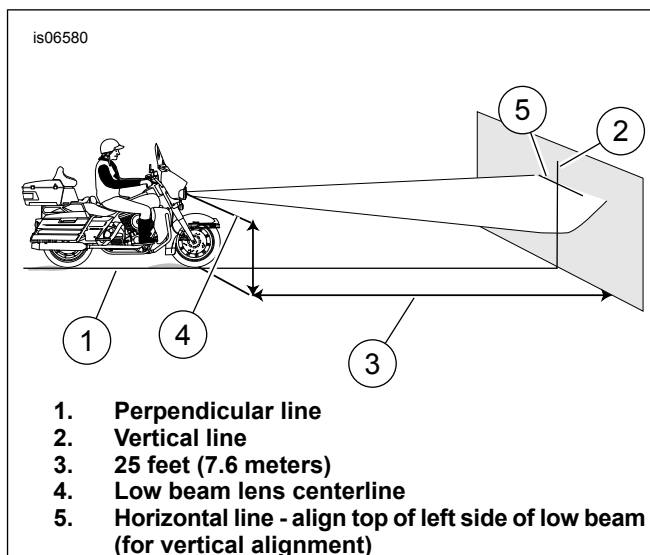

Figure 2. Checking Headlamp Alignment
3. See Figure 2. Position motorcycle so that front axle is 25 feet (7.6 meters) (3) from wall.
5. See Figure 2. Draw a horizontal line on the wall at (5) on the wall that is the same measurement as the measurement recorded in Step 4.
6. Draw a vertical line (2) off of the perpendicular line (1) so that it crosses through the horizontal line drawn in the previous step.